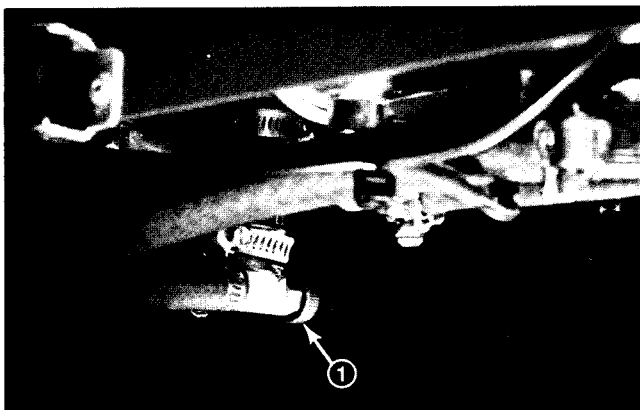

Figure 52
2. Close the fuel shut off valve (Fig. 52). To drain the tank, disconnect the fuel line from the inlet fitting on the electric fuel pump. Open the fuel shut off valve and drain the fuel into a suitable container. Reconnect the fuel line to the electric fuel pump.